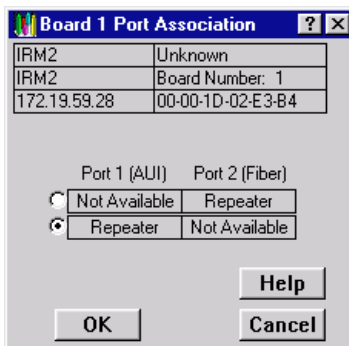

Figure 2-9. Repeater Port Association
2. Click on **Port Association....** The Port Association window, Figure 2-9, will appear.